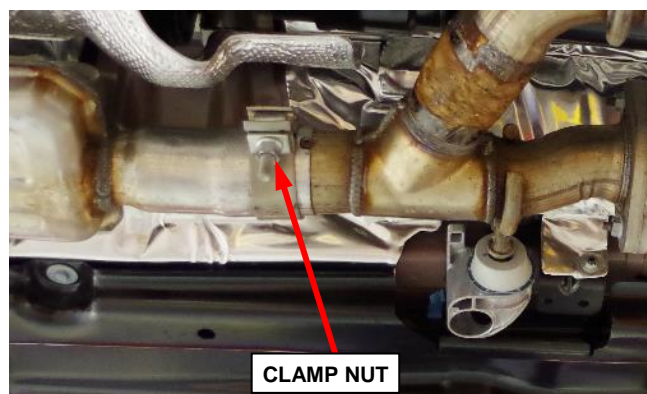

Figure 61 – Y-Pipe
- g. Loosen the clamp nut securing the resonator pipe to the Y-pipe (Figure 61).